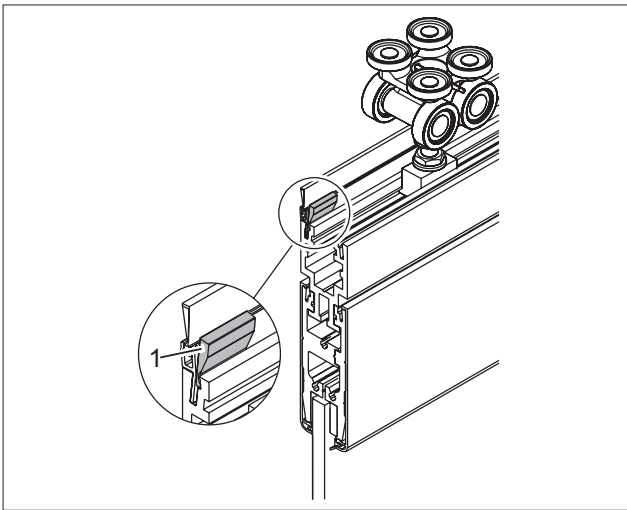

Fig. 45 Wedging the brush profile
2. Wedge in the brush profile from both sides of the end using the included plastic wedges (Fig. 45/1) and a plastic hammer.